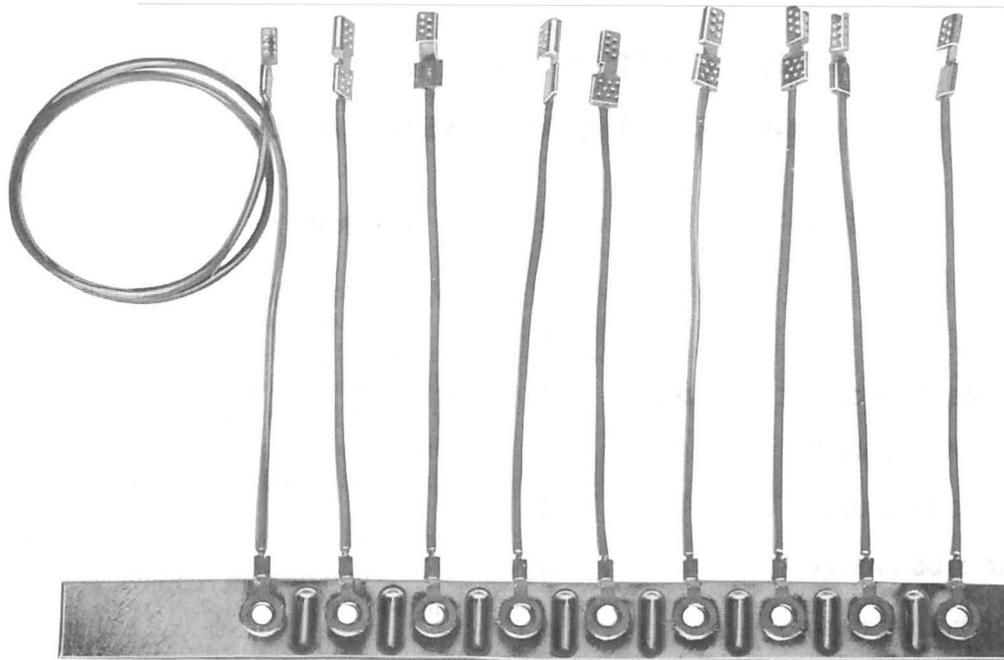

Fig. 2—P-21E642 Bonding Harness Assembly
1.03 The use of the P-21E642 Bonding Harness Assembly (Fig. 2) is introduced in this practice.